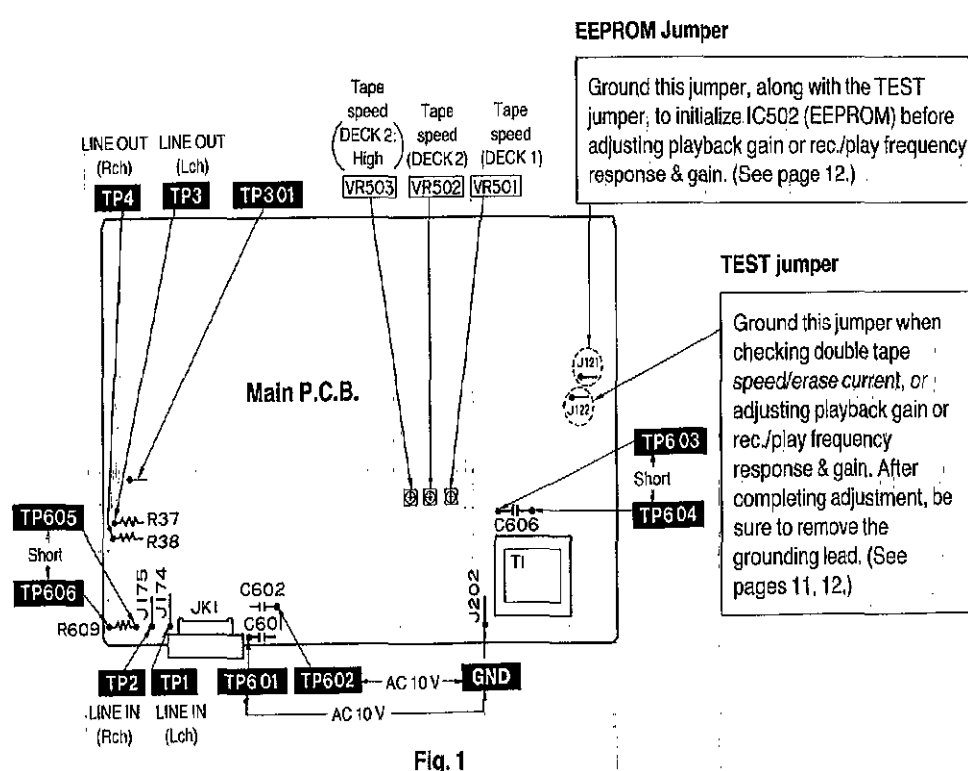

Fig. 1
TP603 to TP604, and TP605 to TP606 (see Fig. 1).
1. Connect an AF oscillator to the line inputs, TP1 (L channel) and TP2 (R channel) (see Fig. 1).
2. Connect an AC voltmeter to the line outputs, TP3 (L channel) and TP4 (R channel) (see Fig. 1).